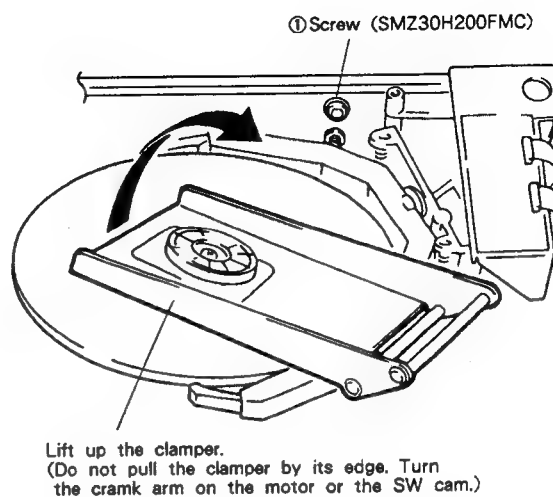

Fig. 3-6-11
Refer to Fig. 3-6-11. Turn the screw ① 6 or 7 times using a hexagon screw driver or a hexagon ball driver with a distance of 2.5mm between the two opposite sides. Then push down the screw ① and loosen the belt. The VH base can be moved manually.